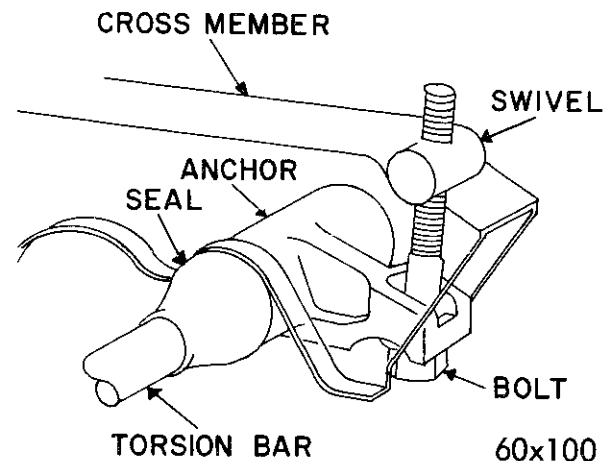

Fig. 3—Torsion Bar Adjustment Bolt
(5) The reading on both measuring pins should be 2 inches $\pm \frac{1}{8}$ inch for all models, and 2½ inches $\pm \frac{1}{8}$ inch for cars with heavy duty springs (Town and Country models). The difference from side to side should be no more than $\frac{1}{8}$ inch.
(6) Adjust, if necessary, by turning the torsion bar anchor bolt clockwise to increase the height and counter-clockwise to decrease the height (Fig. 3). If it is necessary to adjust the anchor bolts, measure the torque required to move the bolt clockwise. If it requires over 200 foot-pounds, replace the anchor adjusting bolt.
(2) Subtract measurement "B" from measurement "A". The difference should be 2 inches $\pm \frac{1}{8}$ for all models and 2½ inches $\pm \frac{1}{8}$ inch for cars with heavy duty springs (Town and Country models).
(3) Measure the right control arm in the same manner. The difference between the side to side measurement should not be more than $\frac{1}{8}$ inch.
(4) Adjust if necessary, by turning the torsion bar anchor bolt clockwise to increase the height and counter-clockwise to decrease the height (Fig. 3). (See "Warning" above.)
(5) After adjusting, jounce the car even if only one side may have been adjusted.
(1) Place a jack under center of the front crossmember and raise the vehicle off the floor, so the front suspension is in full rebound under no load.
(2) Release the load from the torsion bar by backing off the anchor adjusting bolts (Fig. 3). Remove bolt and swivel and discard.